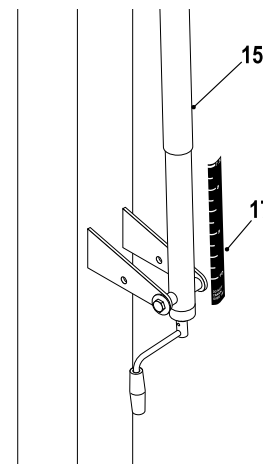

Figure 11
- Adjust unit to 7-1/2 feet. Use a tape measure to measure from the top of the rim to the playing surface. Stick Height Decal (#17) to back of actuator (#16) with the "7.5" mark aligned with bottom of Actuator Sleeve (#15). See Figure 11.